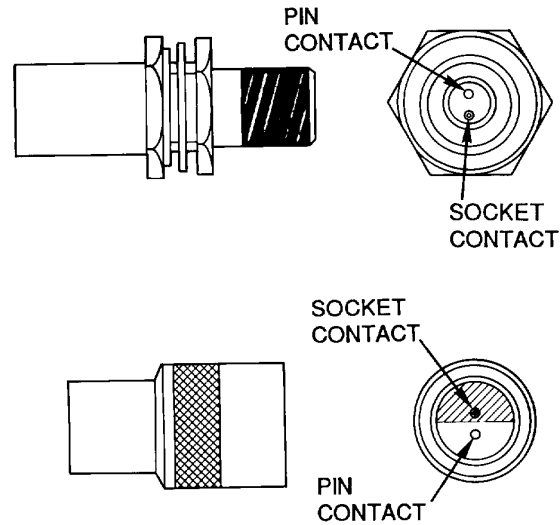

Figure 5. Typical Twin Series Connectors
22. **Description.** These connectors are weatherproof with one pin and one socket contact. These connectors are covered by applicable military specifications (Table 5). Typical twin series connectors are illustrated (Figure 5).